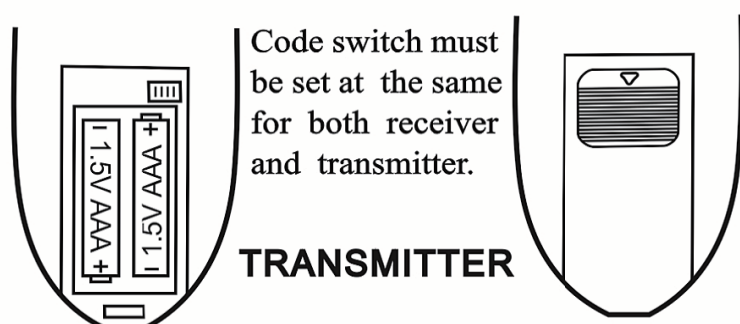
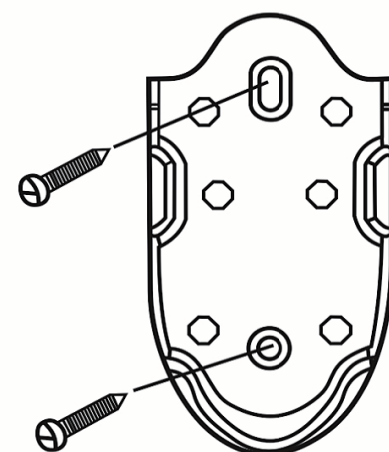

Fig. 3
Fig. 4
6. To change the batteries is to open the battery housing cover by sliding out the cover downward to the arrow shown direction while pressing down the cover with thumb. (Fig. 3) Holder for transmitter: if desired, install onto the wall with screws. (Fig. 4)